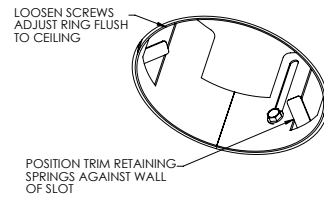

FIGURE 5
- 1. With finished ceiling or tile in place. Check position of locking springs attached to frame. Rotate springs if necessary so that they are against wall of slot as shown in Figure 5.